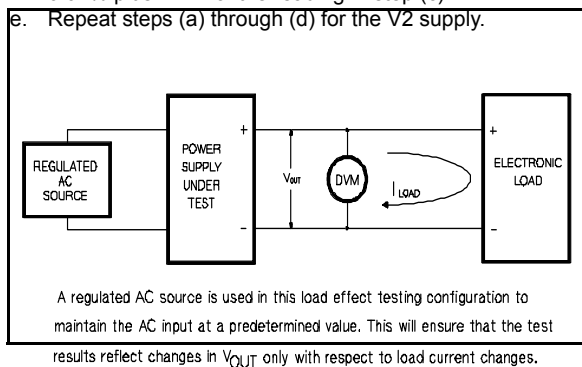

Figure A-7. Basic Test Setup
- Connect the test equipment across the output of the V1 supply as shown in Figure A-7. Operate the electronic load in constant current mode and set its current to 1.000 A. Input off the electronic load.
- a. Connect the test equipment across the output of the V1 supply as shown in Figure A-7, but replace the DVM with the oscilloscope. Operate the electronic load in constant current mode.
- a. Connect the test equipment across the output of the V1 supply as shown in Figure A-7.